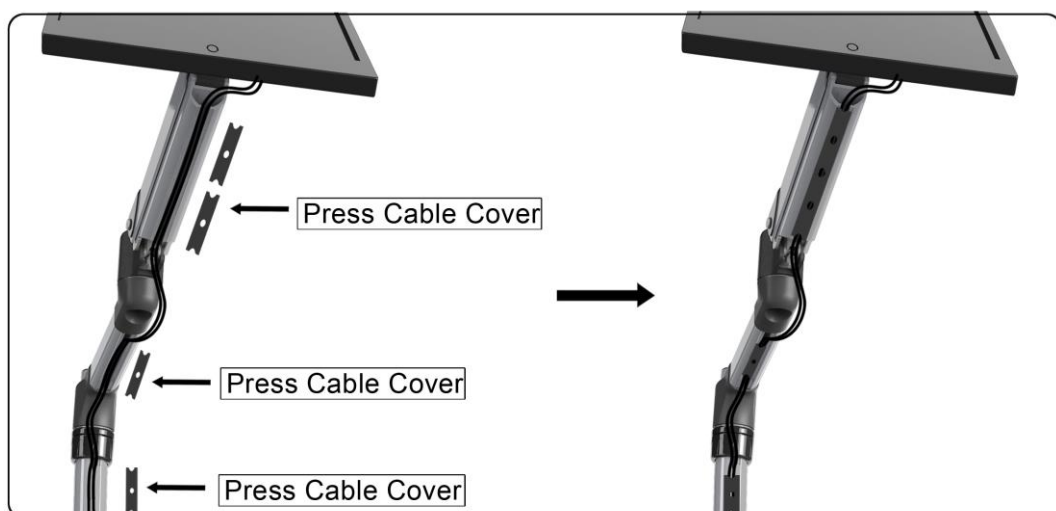

Figure 4-2
2. Feed the cables through the underside of the arms and push them into the cable entry slots. Then proceed to install the cable covers to secure the cables (**See Figure 4-2**).